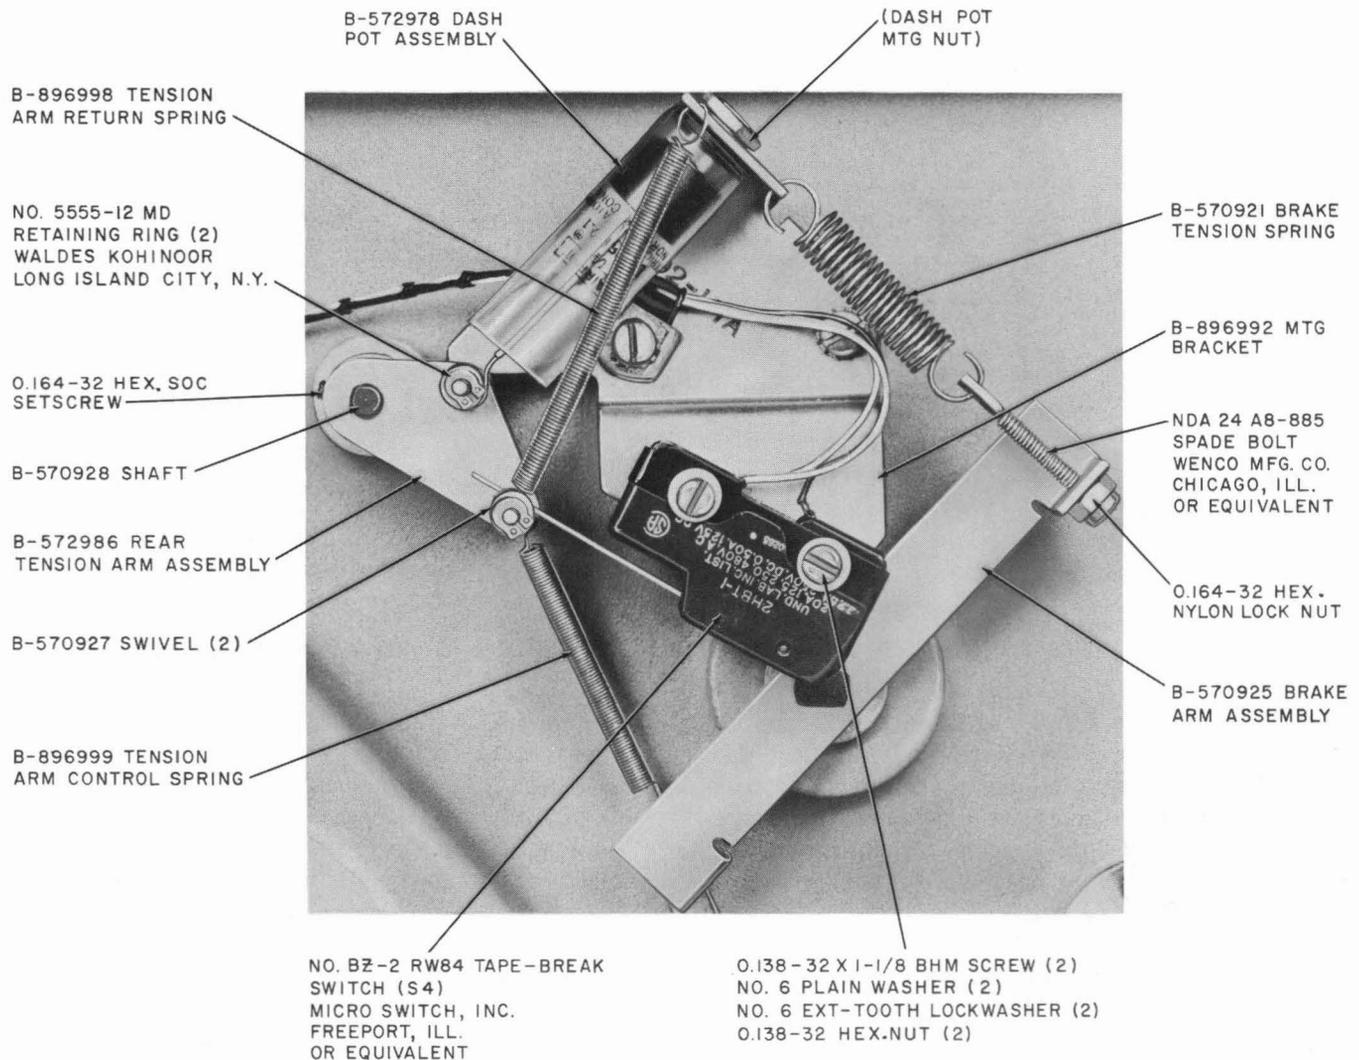
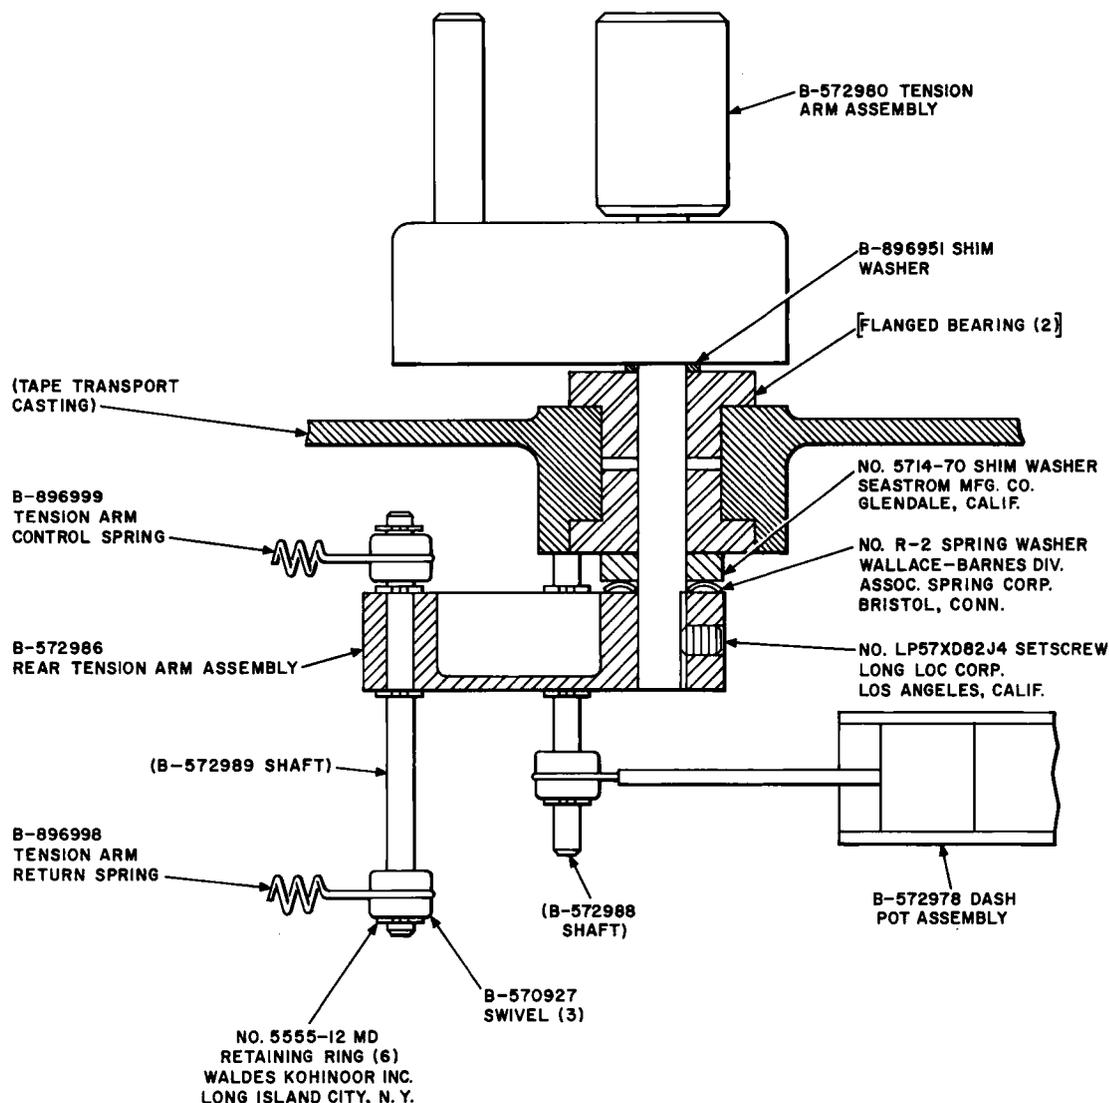

Fig. 11—Supply Reel Brake and Tension Arm Assembly
Fig. 14—Sectional View of Supply Tension Arm and Associated Parts
(1) To remove supply reel brake assembly, unhook tension arm control spring (Fig. 11) from brake arm assembly. Using the 417A wrench, remove hex locknut, spade bolt, and
loose end of tension arm control spring (Fig. 11) to brake arm assembly. Assemble brake tension spring and spade bolt to brake arm assembly and secure with hex locknut by using the 417A wrench. Adjust brake pressure as described in Section 034-360-701.
- (1) To remove supply tension arm assembly (Fig. 8), use the R-2975 snap-ring pliers to remove outermost retaining ring (Fig. 14), and slide swivel of supply tension arm return spring from shaft. Using the R-2975 snap-ring pliers, remove retaining ring from shaft holding dash pot swivel. Using the R-1770 wrench, loosen mounting nut of dash pot (Fig. 11), and remove dash pot from dash pot mounting bracket. With dash pot free, slide dash pot swivel from shaft.
Unhook the tension arm control spring from supply brake arm assembly. Using the 1/16-inch Allen wrench, loosen setscrew located in the end of rear tension arm assembly (Fig. 14); then slide rear tension arm assembly, spring washer, and shim washer from the shaft. Remove supply tension arm assembly (Fig. 8) from the front of the tape transport. Remove shim washer from shaft of supply tension arm assembly.
- (2) Before installing supply tension arm assembly, clean the shaft with a clean KS-2423 cloth.
**Caution:** When installing supply tension arm assembly, the spring washer (Fig. 14) should not be completely compressed.
(3) To replace supply tension arm assembly (Fig. 8), install shim washer on shaft (Fig. 14); insert shaft of supply tension arm assembly from front of tape transport through flanged bearings. Install shim washer, spring washer, and rear tension arm assembly onto shaft of supply tension arm assembly. Using the 1/16-inch Allen wrench, tighten setscrew in the end of rear tension arm assembly while applying 1/2- to 2-pound preload pressure against the flanged bearings. Check the shaft for longitudinal play and observe that spring washer is not completely compressed. If this has occurred, remove rear tension arm; replace spring washer with a new one; reinstall rear tension arm; and recheck shaft for play. Hook the loose end of tension arm control spring in the hole provided in brake arm assembly (Fig. 11). Install the dash pot on the dash pot mounting bracket, using the R-1770 wrench to tighten mounting nut. Slide dash pot swivel on the short shaft (Fig. 14); then, using the R-2975 snap-ring pliers, install retaining ring 1/4 inch from end of shaft. Install tension arm return spring swivel on the long shaft; then, using the R-2975 snap-ring pliers, install retaining ring 1/16 inch from end of shaft.
(4) Adjust supply spring tension as described in Section 034-360-701.
(5) To replace tape-break switch S4 (Fig. 11), tag and remove three soldered leads; use the 4-inch E screwdriver to remove the two